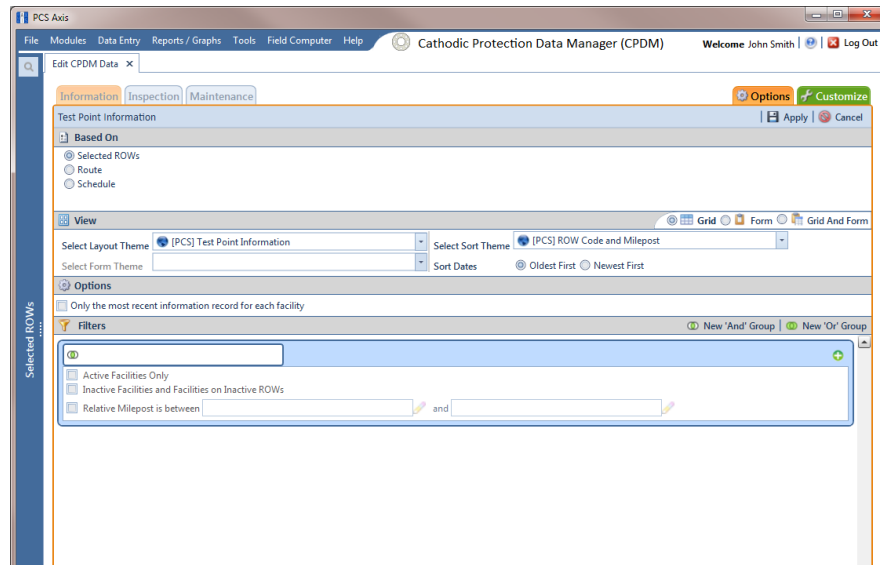

Figure 8-17. Options
- 8 Click  **Save**, then click the **Options** tab  to open the options page (Figure 8-17).